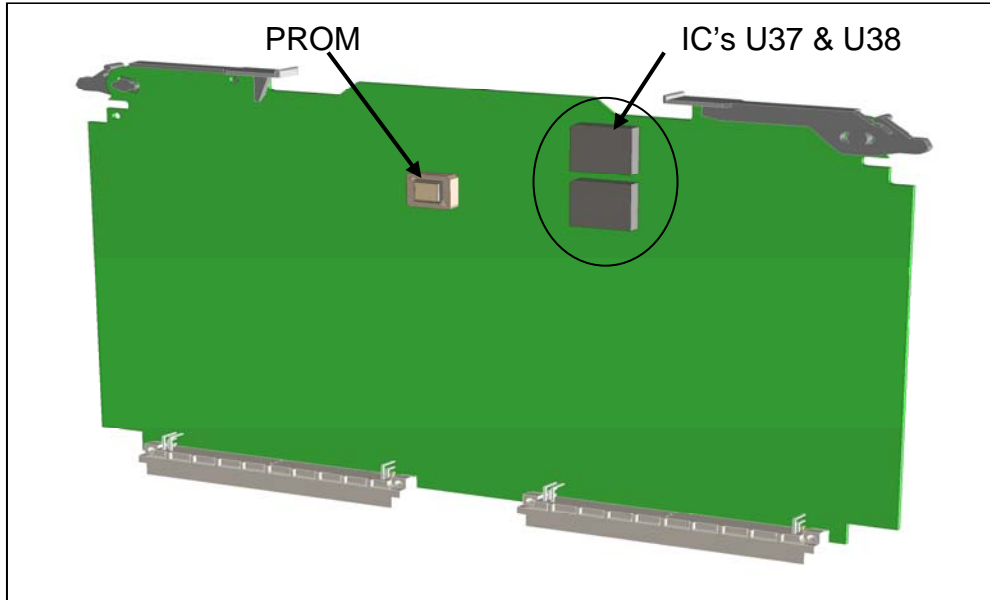

Figure 2
1. Replace the Host I/O PROM if your instrument has a new style E5515-60223 Host I/O Module. The Host I/O version can be easily identified by the two IC's circled in Figure 2.
- a. If the two IC's identified in Figure 2 are missing, this is the new style E5515-60223. This version will require the PROM replacement.